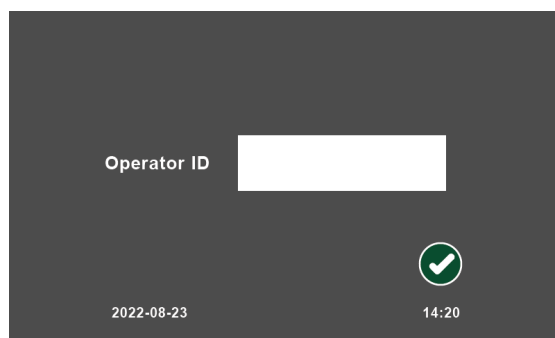

Figure 2. Operator ID Screen
1. Tap on the Operator ID window. See Figure 2.